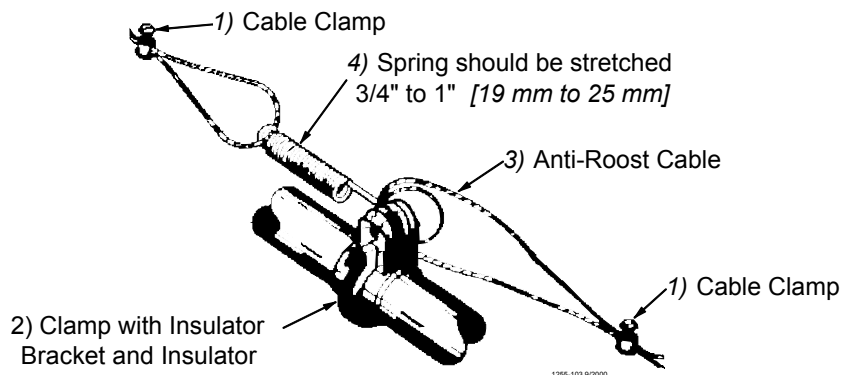

Figure 63. Anti-Roost Cable Mid-Line Connection
4. Attach a spring in the center groove at the second anti-roost bracket and cut the cable at this point. See **Figure 63**.
5. Thread the ends of the cable through the end of the spring. Pull the cable tight so that there is 3/4" to 1" [20 to 25 mm] of stretch in the spring. Clamp the cable to form a loop and cut off any excess. See **Figure 63**.
6. Attach the cable to the insulator. For best results, make a double loop around the anti-roost insulator in the center groove of the insulator and fasten with a 1/16" cable clamp as shown in **Figure 63**.